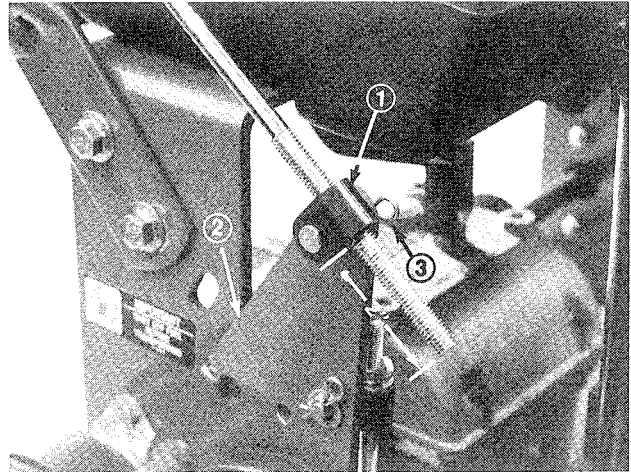
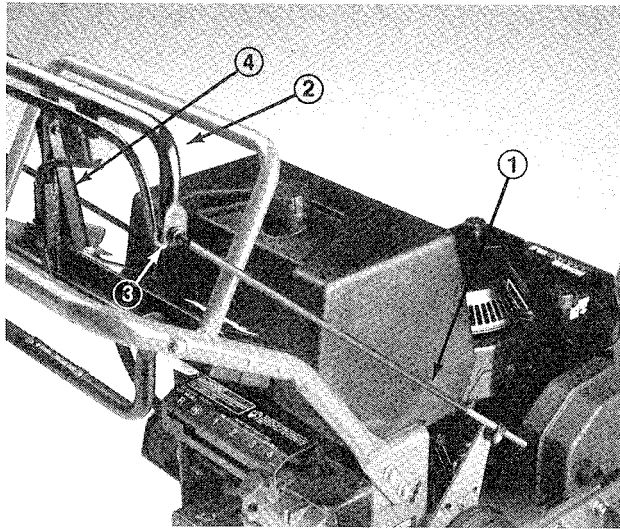

Figure 7
Figure 8
- Thread a rod fitting onto each control rod approximately 2" (Fig. 7) or until upper control rod (Fig. 8) is perpendicular to ground.
- Mount rod fitting ends to mounting holes in idler brackets (from outside) with clevis pins, washers and hairpin cottes (Fig. 7).
- Check gap between control bar and upper handle when fully engaging wheel belts. Gap should be approximately 1 to 1-1/4" (Fig. 8).
- Brake rods should be adjusted so parking brake lever can be swung into a snug position against the upper handle while pulling back on upper control bar (Fig. 8).